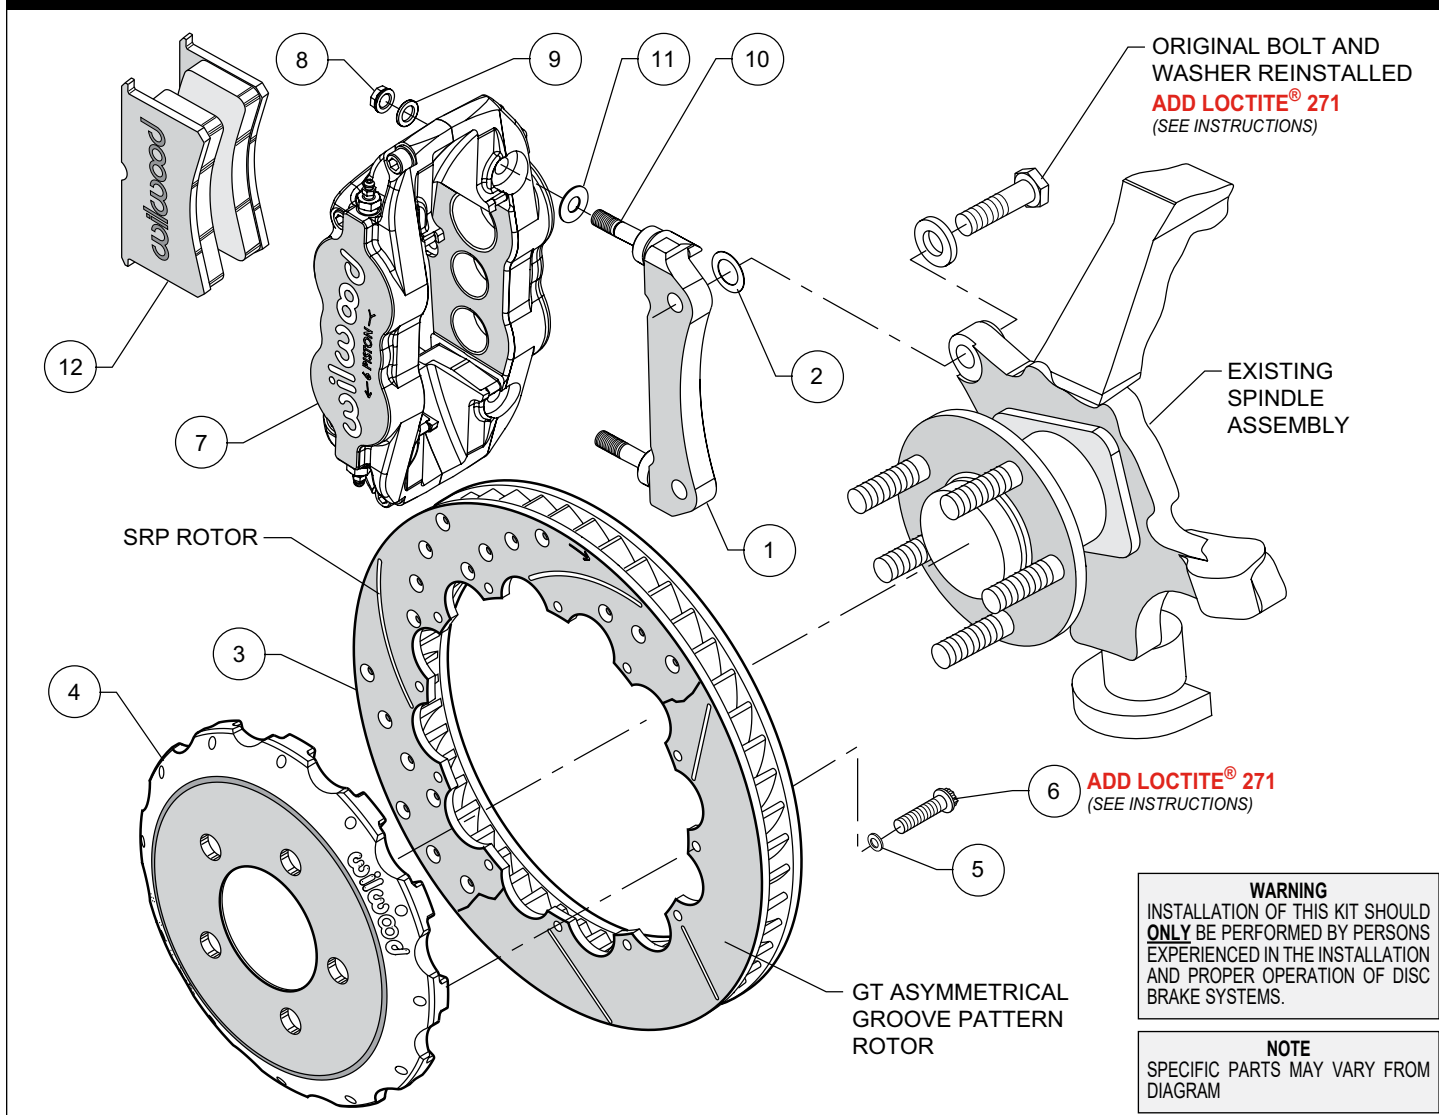
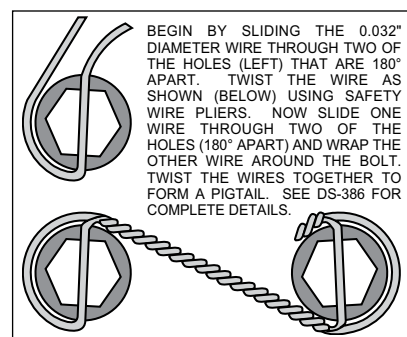

Figure 1. Typical Installation Configuration
Figure 3. Safety Wire Diagram
- Assemble the rotor (3) to the hat (4) with the bolts (6) and washers (5) as indicated in the configuration pictured in Figure 1. Apply red *Loctite*® 271 to the bolt threads and torque to 155 **in-lb** using a criss-cross pattern. For an added measure of security, the bolts may be safety wired using standard 0.032 inch diameter stainless steel safety wire as shown in Figure 3. Please refer to Wilwood's data sheet DS-386 (available at www.wilwood.com/Pdf/DataSheets/ds386.pdf) for complete safety wire installation instructions.
- Install one shim (11) over each stud (10) on the radial mount bracket (1). Slide the caliper (7) in place over the studs and rotors and install the washer (9) and lock nut (8) to hold the caliper in place. The caliper bleed screws should be pointing up. Snug the lock nuts (8) and check that the rotor (3) is centered in the caliper (7). Add or subtract .015" shims (2) as necessary between the mount bracket and the spindle to center the caliper.
- Remove the caliper center bridge pad retainer bolt, nut, and tube from the caliper. Slide the brake pads (12) into place. They should install easily without interference. Check that the outside radius of the brake pad is aligned with the outside diameter radius of the rotor face. Add or subtract .035 shims (11) between the caliper and mount bracket to gain the proper alignment. Reinstall the center bridge pad retainer tube, bolt, and lock nut. The locknut should be snug without play in the bolt or tube. Be cautious not to over tighten.
- Once all clearances have been checked, remove the wheel, caliper, hat, and rotor from the spindle and hub. Secure the caliper mounting bracket (1) to the spindle using red *Loctite*® 271. Torque the bolts to 65 ft-lbs. Reinstall the hat and rotor assembly and again use several lug nuts to hold it in place. Reinstall the caliper and torque the caliper nuts (8) to 30 ft-lbs.